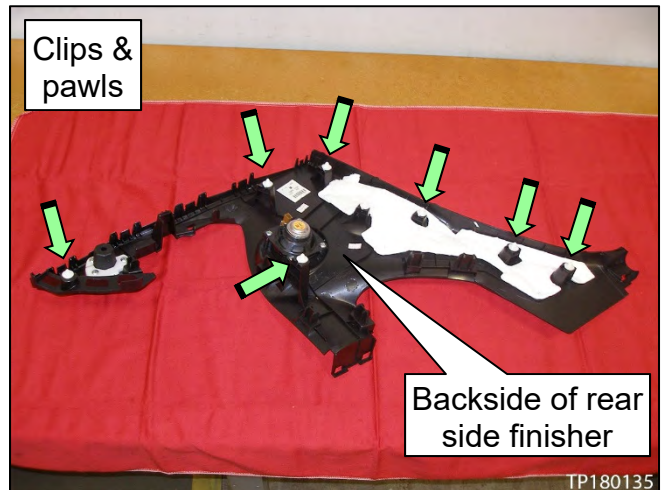

Figure 32
- Pawl and clip locations are shown in Figure 32. Clip locations are the same on the LH & RH rear side finishers.